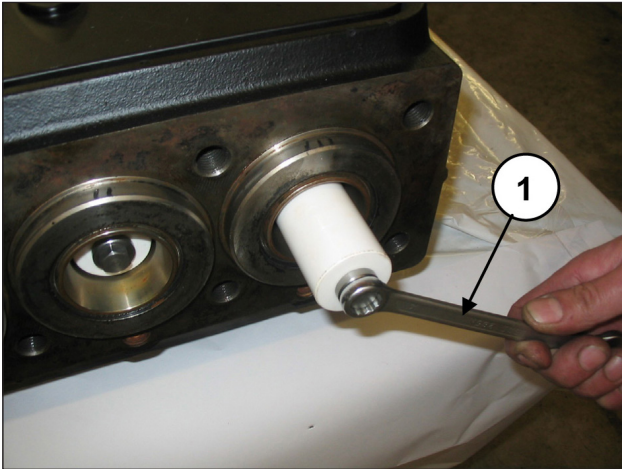

Fig. 151
Disassemble pistons unscrewing the fixing screws (pos. ①, Fig. 151).